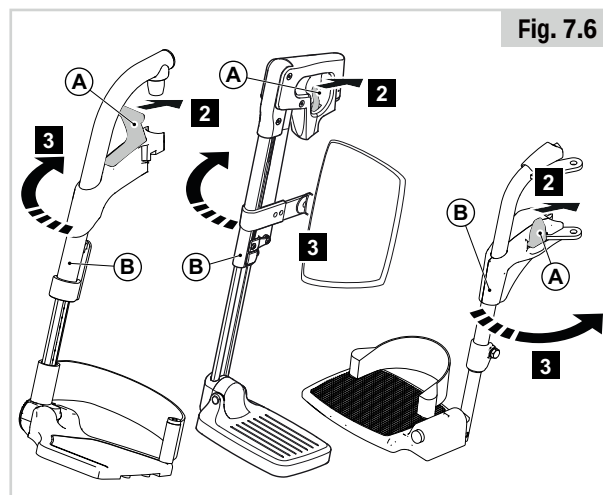

Fig. 7.6
7.5 Repose-jambe escamotables (Fig. 7.6)